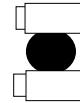

Fig. 3
1. Looking at the end of the bumper, locate and mark a point mid way (center) from left to right, and 1-1/8" down from bottom of inset. (See Fig. 3 below)
4. Install anchor bolt as shown in Fig. 3, with the flat surfaces horizontal.